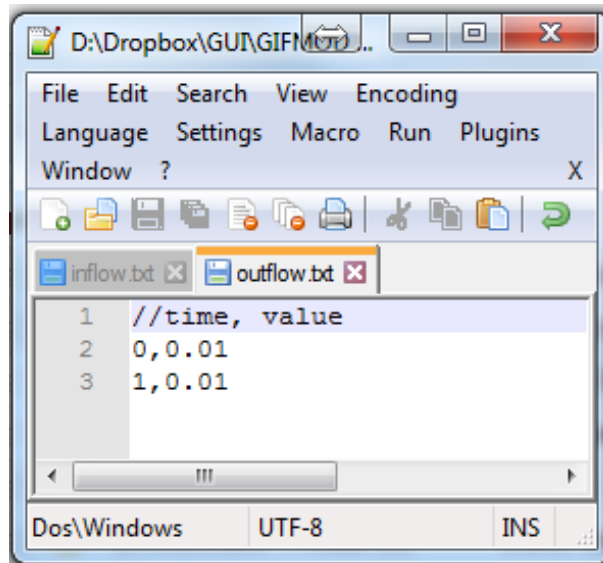
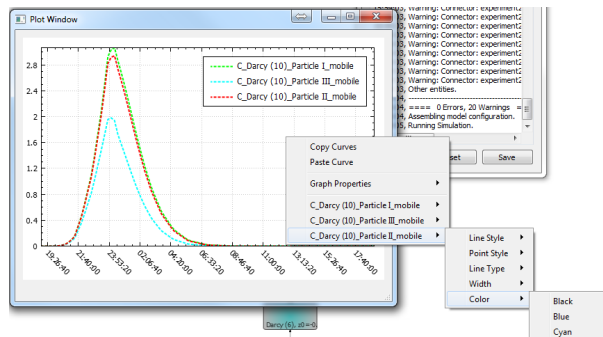

Figure 4.3: Outflow file
Figure 4.4: Particle breakthrough curves for the three particle classes
**Pond (1)** connector should look like Figure 4.3. Please note that the heading file in Figure 4.3 is ignored by the program and is only necessary for user documentation.
- Right-click on the block named **Darcy (10)** and choose **Water**
- Do the same with particle III to see the three breakthrough curves for the three particle types in a single graph. You can change the format of each curve by right-clicking on the graph and selecting the name of each curve (Figure 4.4).